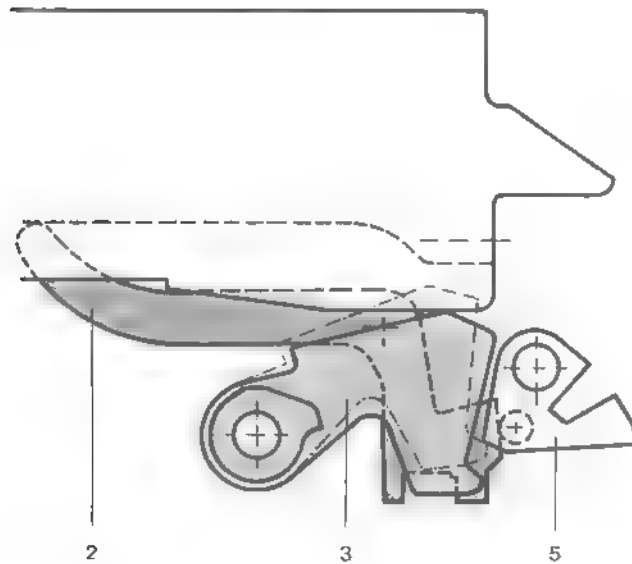

Figure 64
The recoiling bolt cocks the hammer (3) which is retained by the sear (5) (refer to figure 64).
The sear (5) catches the hammer (3) (refer to figure 64).